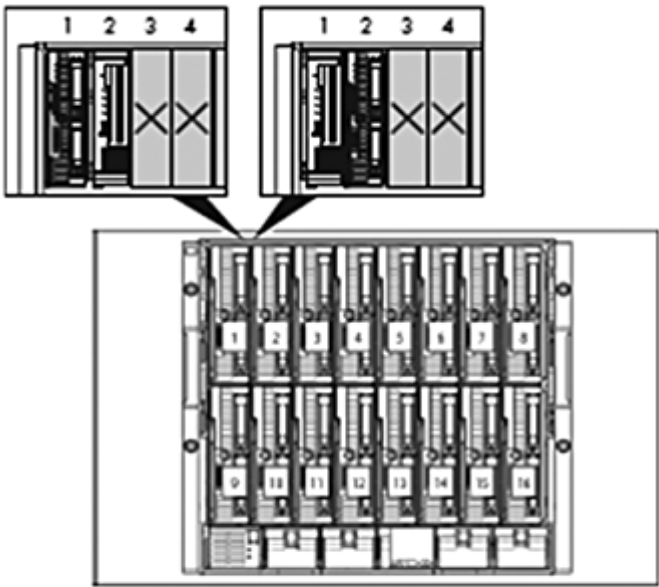

Figure 1 Installing an expansion blade adjacent to a half-height server blade.
- 1. One half-height partner server blade supports one expansion blade (Figure 1).